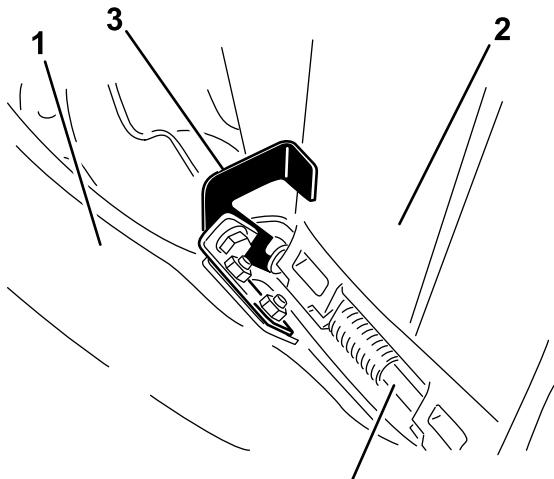

Figure 23
3. On the top of the chute, engage the hook shaped latch around pivot rod of the deflector assembly as shown in (Figure 23).